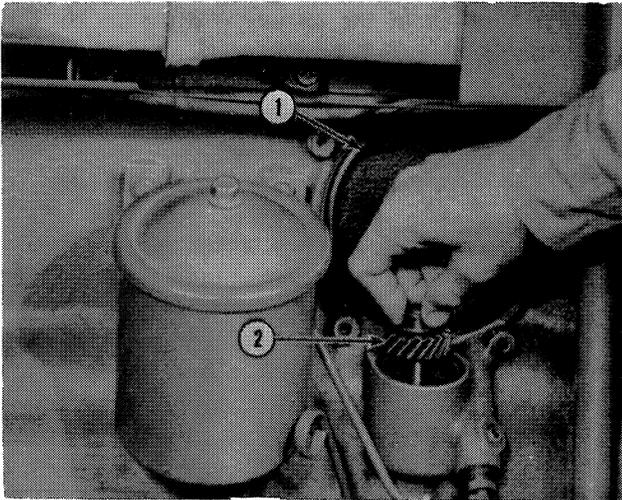

Figure 33
3. Remove the engine oil filter, and oil drain shield, when fitted, to gain access to the oil pump drive gear and shaft cover. Remove the cover and the drive gear and shaft, Figure 33.
4. Install the pump drive gear and shaft, Figure 33. Install a new gear stop gasket and install the gear stop.